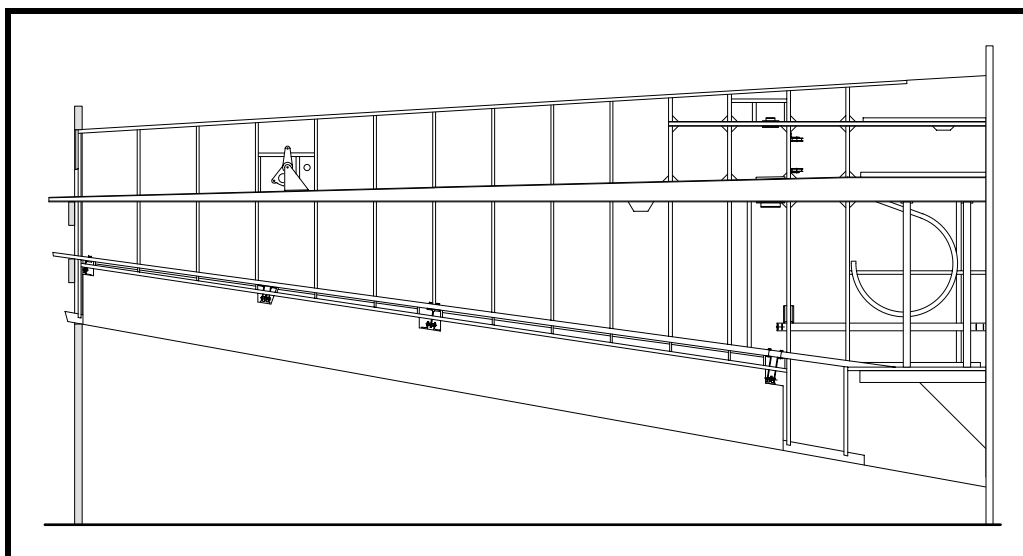

Figure 22
- ❑ For “open air” wheel well installation—fit the two upper wheel well rings in place. See Figure 22. Because of the contour of the seat supports, these rings are installed at an angle, with the front end higher than the aft end. To make things work out right, the ring is made thicker so that it will be 20x20 when it is sanded to the final contour. At the aft face of the wing spar, the bottom of the laminated ring should be 20mm below the top of the wing spar. At fuselage frame No. 5, the notch in the frame is only 15mm, and the laminated rings must be notched from the bottom so that the top of the un-sanded rings will be 4mm above the top of fuselage frame No. 5 at the forward face. This will place the